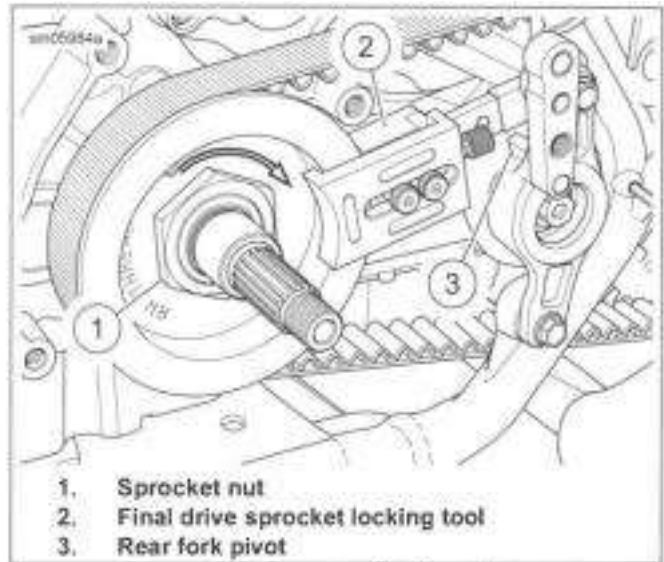

Figure 5-39. Sprocket Nut Installation
- See Figure 5-39. Install special tool (2) resting against the rear fork pivot (3).